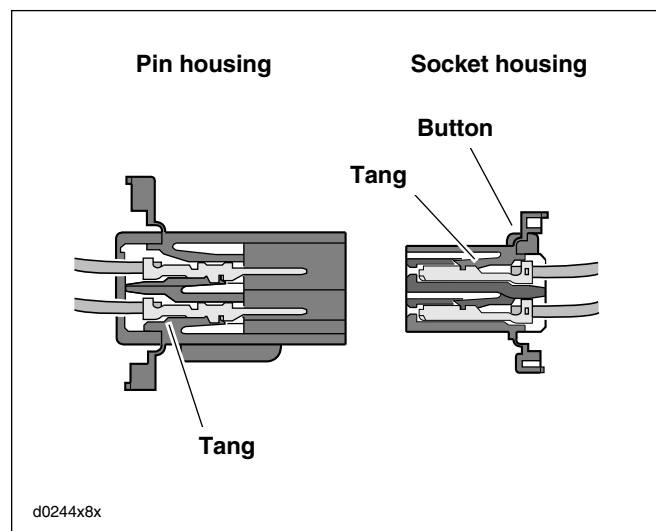

Figure B-3. Multilock Connector Cutaway View
- See Figure B-3. The tang in the chamber engages the slot to lock the terminal in position.
Raise locking bar by pushing up on bottom flange. With the crimp tails facing upward, insert contact (socket/pin) through locking bar, so that the closed side of the contact rests on the front nest (concave split level area of the crimp tool). See Figure B-3.